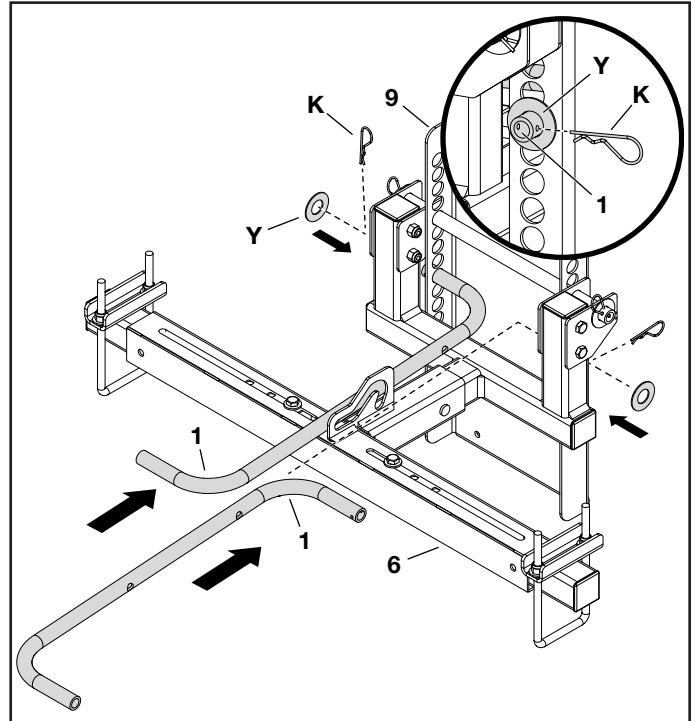

FIGURE 6
STEP 6: (SEE FIGURE 6)
- With a push tube (1) level to the hitch mount assembly (6), insert the end of the push tube into the 9th hole from the top of the bulkhead (9) for now.
- Repeat with the second push tube (1).
- Secure each push tube (1) to the bulkhead (9) using a washer (Y) and hair cotter pin (K).